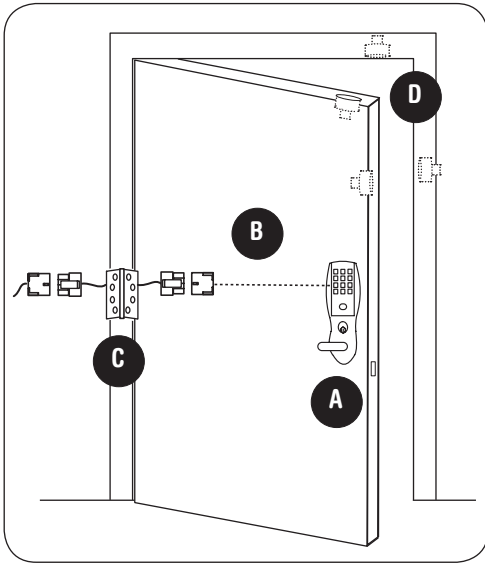
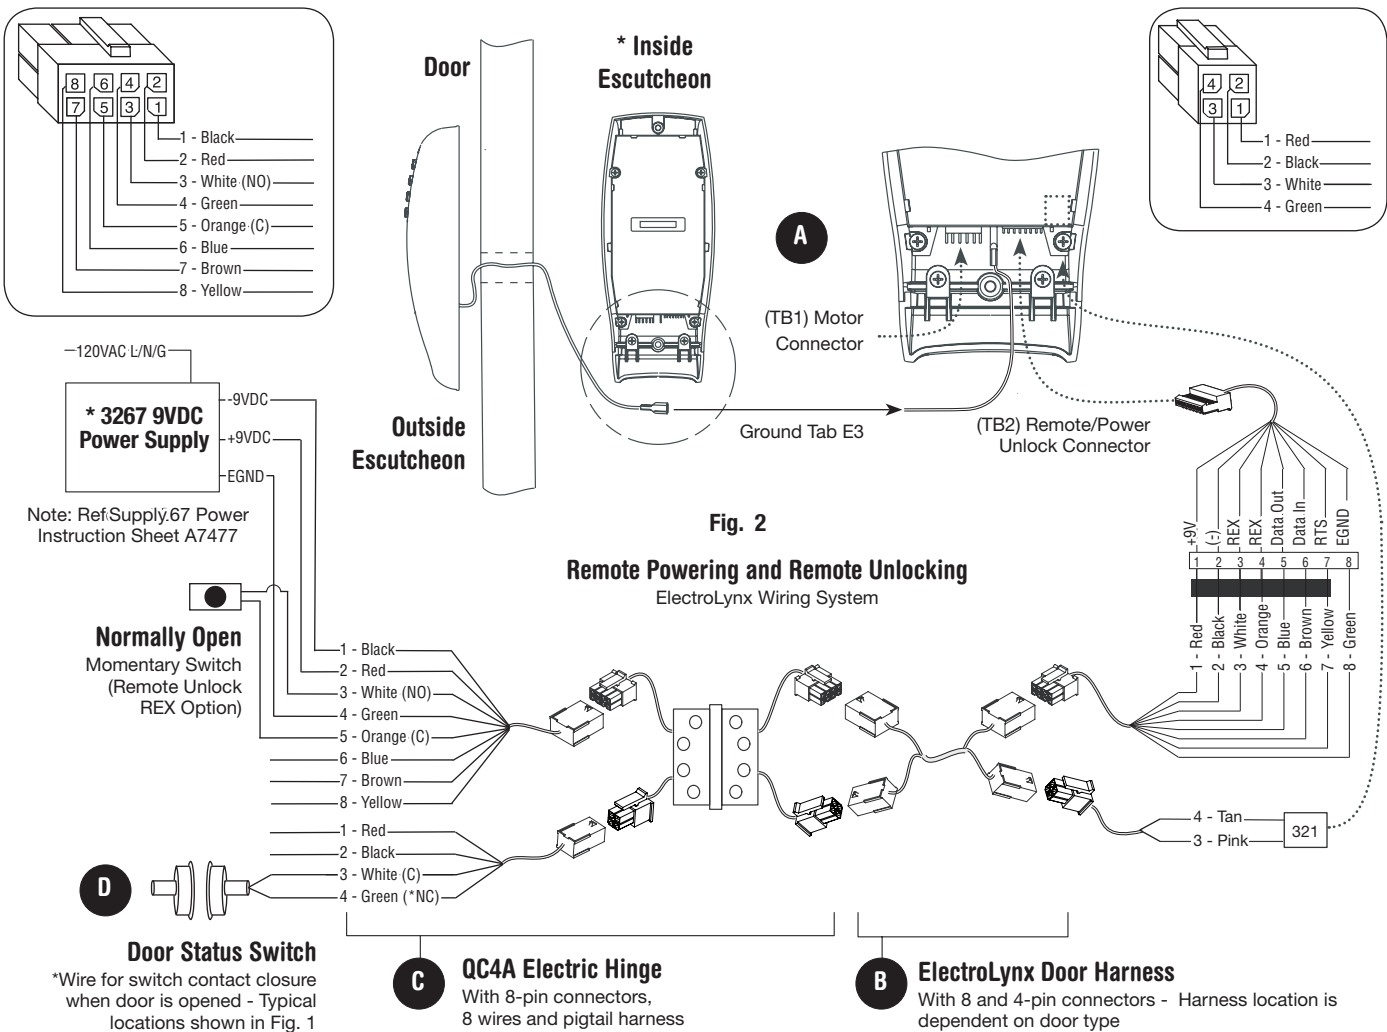

Fig. 1
Fig. 2
1. **ElectroLynx® System Wiring Instructions** (Fig. 1 and Fig. 2):
- c. Hard wire hard power and/or remote unlock (REX) (Fig. 2).
2. **Non-ElectroLynx® System Wiring Instructions** (Fig. 1 and Fig. 2):
***IMPORTANT:** (6) “AA” batteries **MUST** be removed from controller when using 3267 power supply.